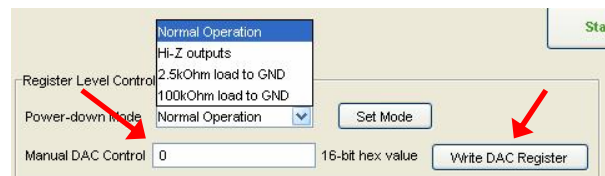

Figure 9: Manual DAC Control
8. Perform register level control of the DAC by writing 16-bit words to the DAC Data Register. To write the DAC, simply type a 16-bit hex value into the "Manual DAC Control" field and press Enter or click the "Write DAC Register" button. See *Figure 9*.